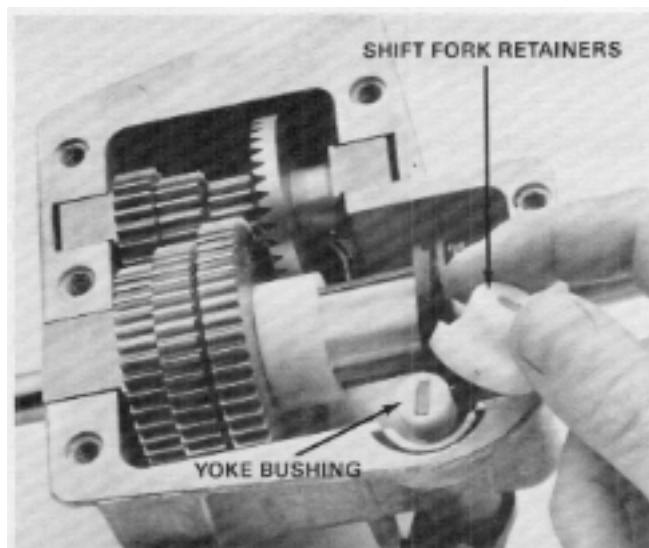

Figure 70
5. Slide the yoke bushing onto the lower end of the shift fork then secure the shift fork with the white nylon shift fork retainer. See Figure 70.